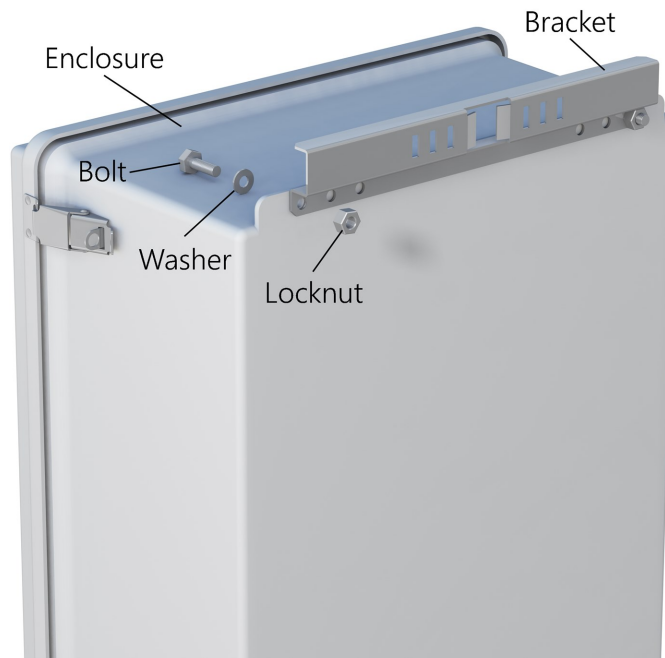

FIGURE 6-18. Attaching the pole mount bracket
1. Position a bracket at the top of the enclosure as shown in FIGURE 6-18 (p. 23). Secure it with a bolt, washer, and locknut at each end. Attach the lower bracket in the same manner, rotating the bracket so it extends below the enclosure.